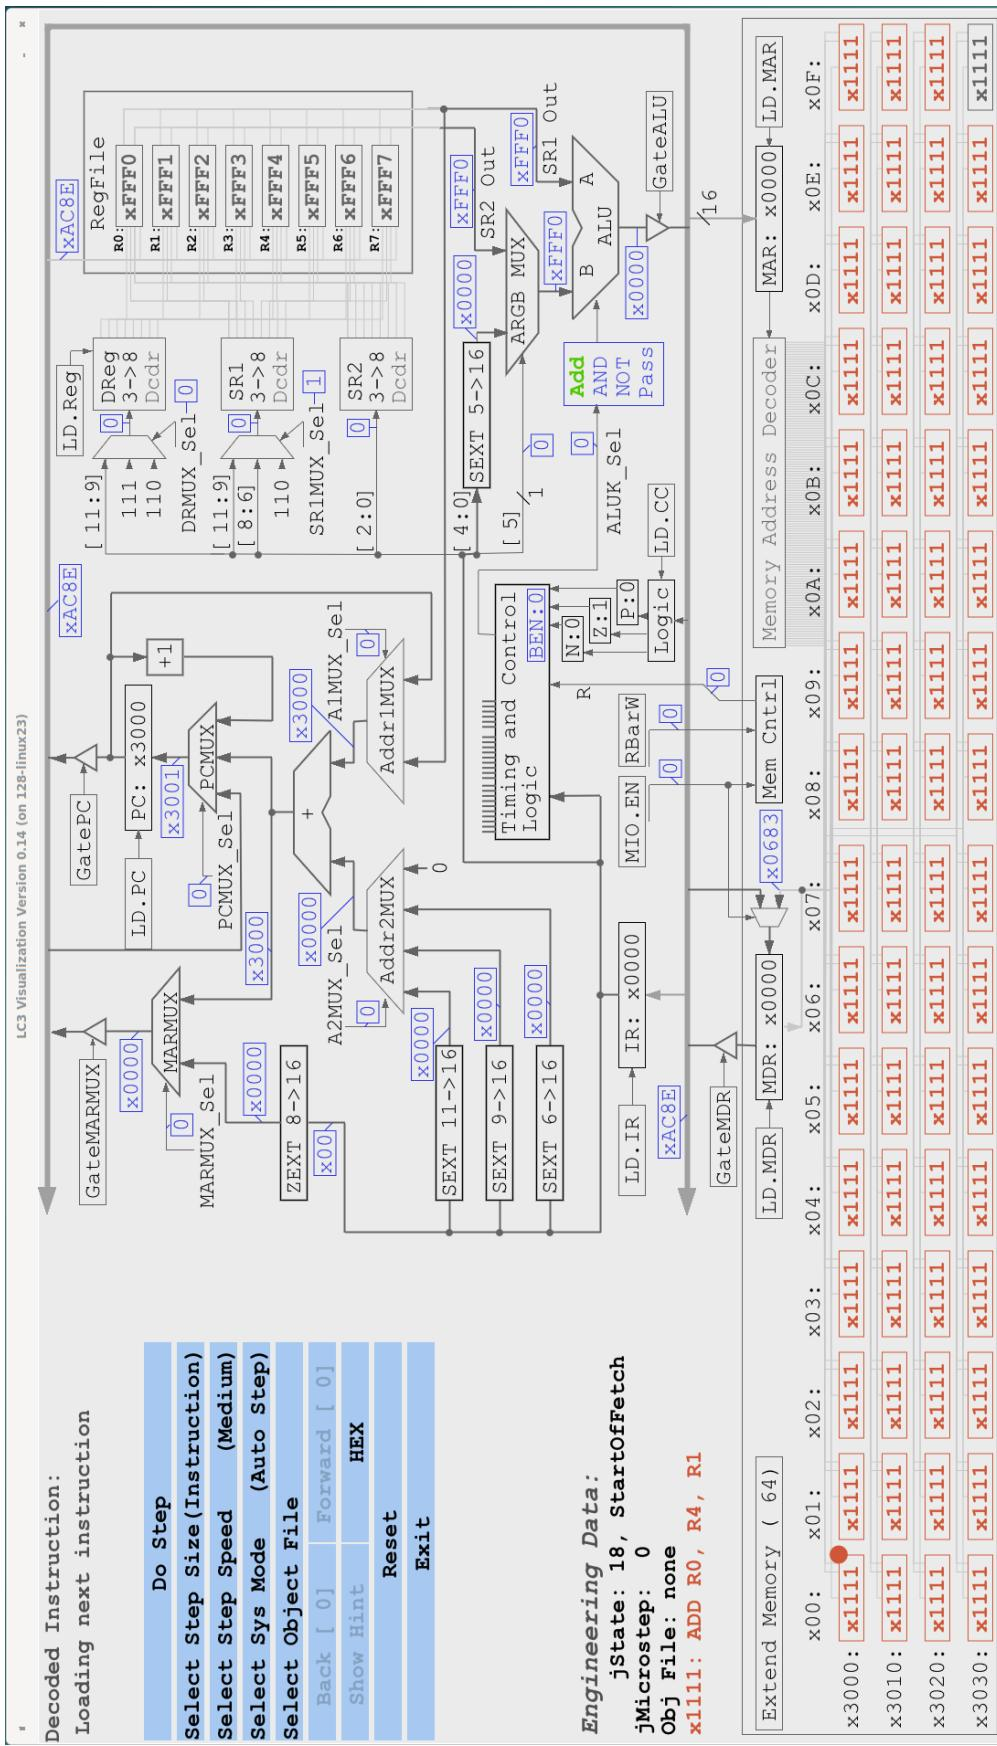

Figure 1: LC3\_Visualization, upon launch.
The LC3\_Visualization is a tool for demonstrating and understanding program execution in the LC-3 computer. The LC-3 computer has been developed by Y. Patt and S. Patel for their textbook *Introduction to Computing Systems: From Bits & Gates to C/C++ & Beyond*. The LC3\_Visualization layout is a block diagram of the LC-3, and is seen in figure 1. The LC3\_Visualization :
- Figure 1 shows the LC3\_Visualization at a moment where the Program Counter (upper center) is being exerted onto the Main Bus (large  $\beth$  shaped line at perimeter);
- Specifically, the memory region of figure 1 is all of the memory available; (Nothing is hidden; There are no other views !)
When the LC3\_Visualization launches, it appears as seen in figure 1. Figure 2 has labels added. The register file and memory are initialized with values to help identify the elements and visualize changes to data.
In the configuration of figures 1 and 2, the LC3\_Visualization can be used to demonstrate features such as control signals, and multiplexer and decoder operation. For many things, however, the LC3\_Visualization is most useful when a program is loaded. LC3\_Visualization currently loads programs assembled by `lc3tools`, implemented by Chirag Sakhija at University of Texas.
1. Launch LC3\_Visualization. The open application will appear as in figure 1.